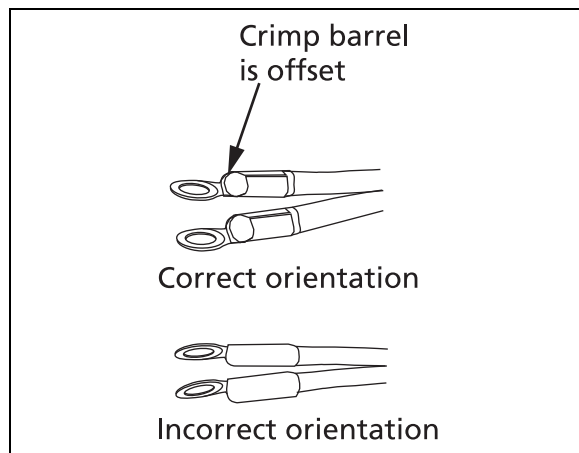

Figure 9. Orientation of Line Cord Screw Lugs
- 1 From the outside of the housing, slide the screw lugs of a new line cord through the hole in the end of the test set housing. Make sure the crimp barrel offset side of the screw lugs is up (Figure 9) and that the line cord screw lugs are flush against the circuit board.